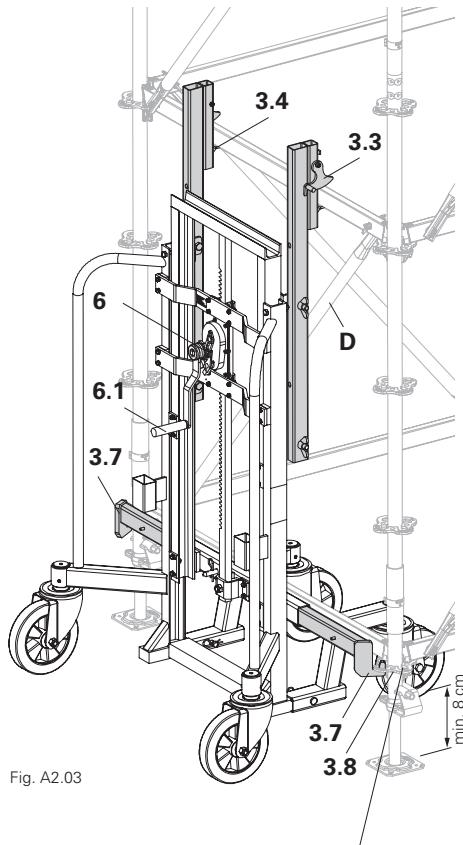

Fig. A2.03
3. Raise the load by turning the hand crank (6.1) in a clockwise direction. The safety pawls (3.3) are automatically pushed upwards at the rear, fall in a forward direction and thus secure the Ledger against lifting. (Fig. A2.03)
Min. 8 cm. (Fig. A2.03)